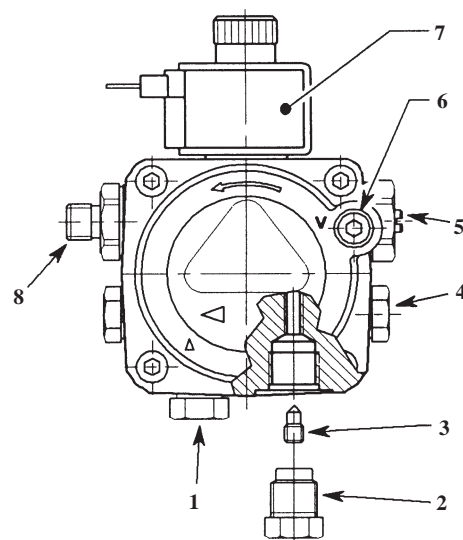

Fig. 6 - RDB pump
3.4.6 Two pipe oil supplies - (See Fig. 6)
- 1 The fuel pump is supplied for use with a single pipe fuel supply system. For use on a two pipe system, it is necessary to fit the By-pass screw (see Fig. 6) into the tapping in the return port.
- 7 Flexible fuel lines and adaptors are available from Grant Engineering (UK) Ltd.